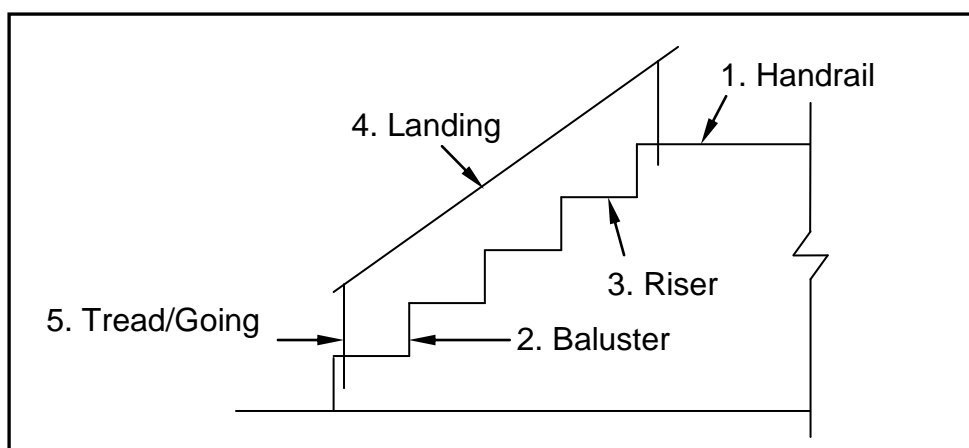

FIGURE 3.6
- 3.6 FIGURE 3.6 below shows a straight flight of stairs. The flight of stairs is incorrectly labelled. In your ANSWER BOOK, write down the correct label next to the number of each part, e.g. 6. pitch board.